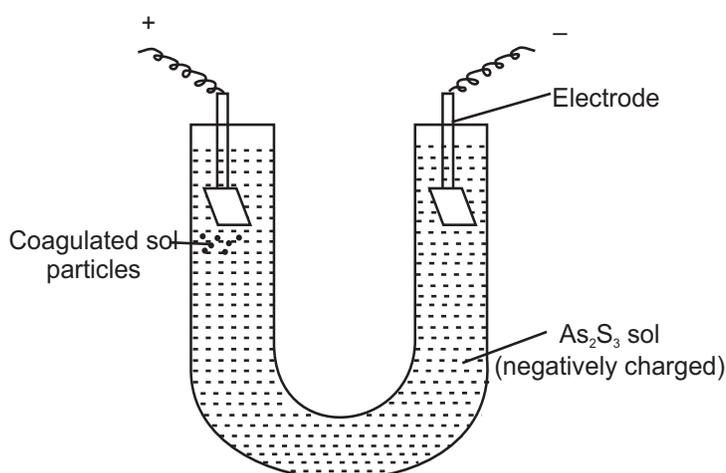

Fig. 8.7 : A set up for Electrophoresis
**Electrophoresis** is a process which involves the movement of colloidal particles either towards cathode or anode under the influence of electrical field. The apparatus used is as shown in Fig 8.7.